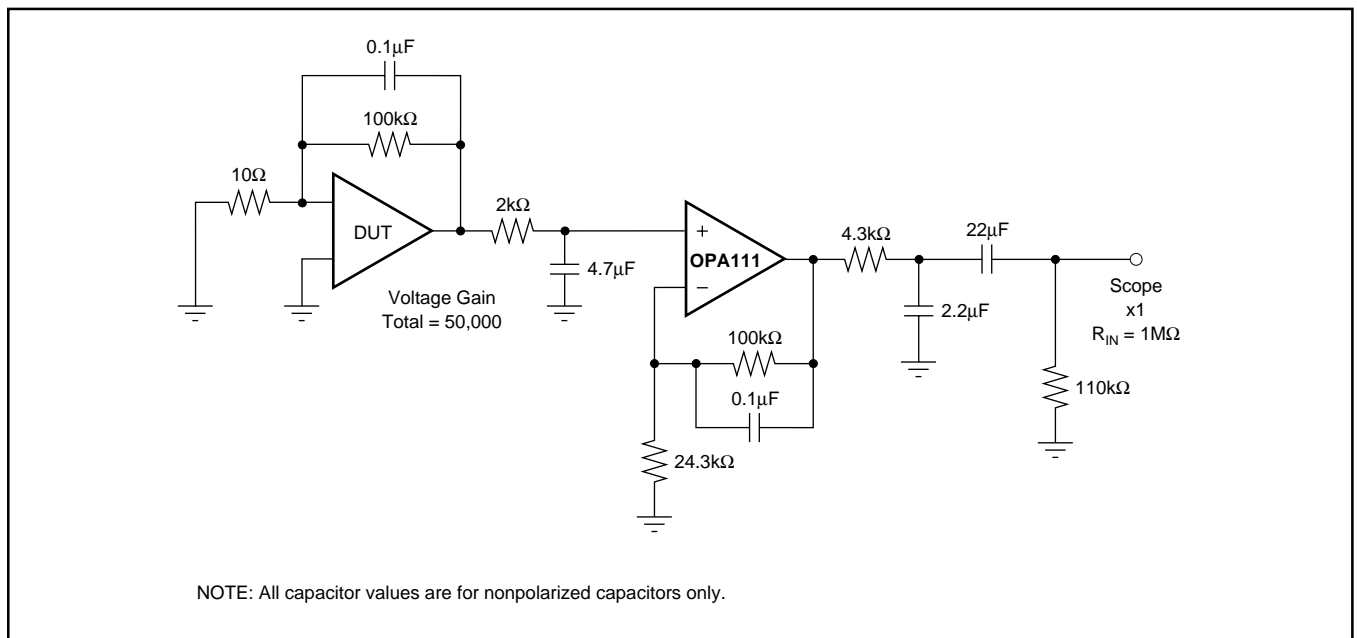

FIGURE 1. 0.1Hz to 10Hz Noise Test Circuit.
NOTES: (1) Measured with industry-standard noise test circuit (Figures 1 and 2). Due to errors introduced by this method, these current noise specifications should be used for comparison purposes only. (2) Offset voltage specification are measured with automatic test equipment after approximately 0.5 seconds from power turn-on. (3) Unnulled or nulled with 8k Ω to 20k Ω potentiometer. (4) Long-term voltage offset vs time trend line does not include warm-up drift. (5) Typical specification only on plastic package units. Slew rate varies on all units due to differing test methods. Minimum specification applies to open-loop test. (6) This parameter specified by design.